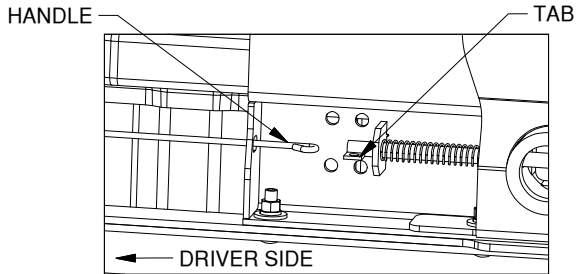

Figure H1: Looking up at center section.
1. **Insert the handle.** Install the latch pin release handle by inserting it through the slot in the end of the center section on the driver side of the truck. Align the handle eyelet with the hole in the latch pin tab so the handle is in line with the latch, as shown in Figure H1.